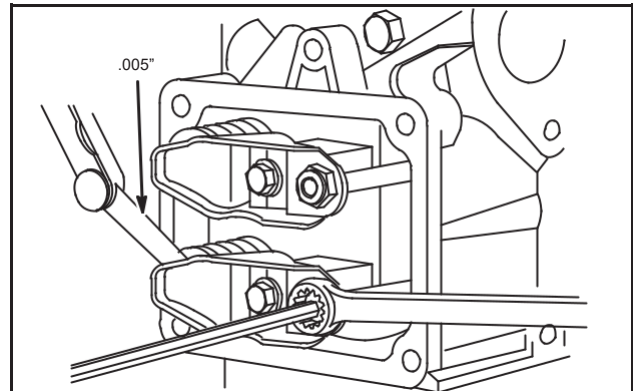

Fig. 17 – Adjust Valves
- a. Adjust valves and check, Fig. 17.**Valve Clearance (cold) IN and EX .005" (0.13 mm)**